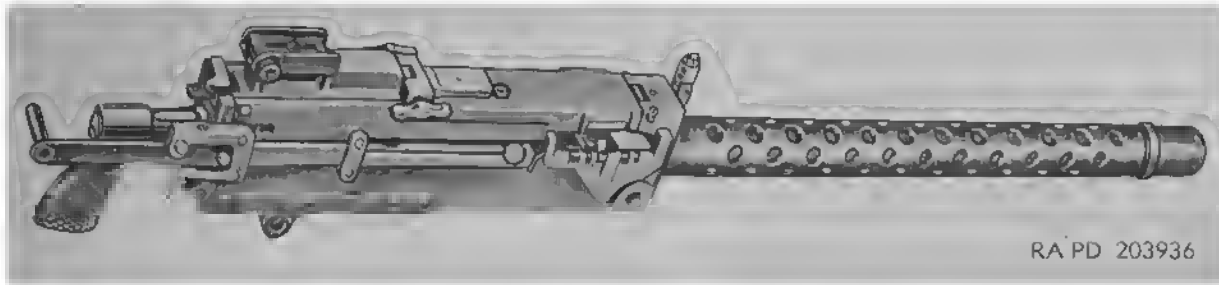

Figure 1. Cal. .30 machine gun M37 (tank)—right-side view.
a. These instructions are published for the information and guidance of the personnel to whom this materiel is issued. They contain information on the operation and organizational maintenance of the cal. .30 machine gun M37 (tank) (figs. 1 and 2) and ammunition.
The cal. .30 machine gun M37 (tank) (figs. 1 and 2) is an automatic, recoil-operated, link-belt fed, air-cooled weapon. The gun is designed for fixed or flexible use. Depending on the positioning of some of the component parts, ammunition can be fed from either the left or the right side of the gun. A metallic link belt of the disintegrating type